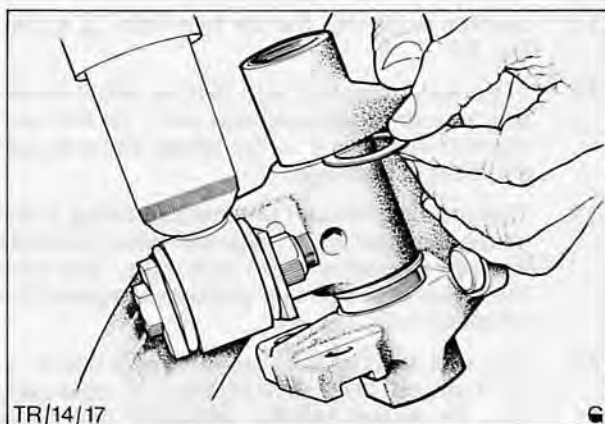

Fig. 17. Fitting shim between stub axle and axle beam
18. Refit stub axle to axle beam ensuring shim, Fig. 17, is fitted between top face of stub axle and lower face of upper hole in axle beam. Select shims to give a maximum clearance of 0,1 mm (0,004 in) and a minimum clearance of 0,025 mm (0,001 in). Insert kingpin.